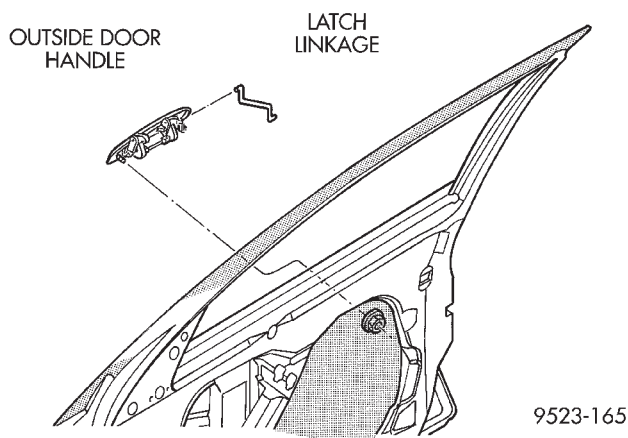

Fig. 22 Front Door Outside Handle
- (1) Remove door trim panel.
- (2) Close door glass.
- (3) Disconnect latch linkage from door latch.
- (4) Remove nuts holding door handle to outer door panel (Fig. 22).
- (5) Separate door handle from vehicle.